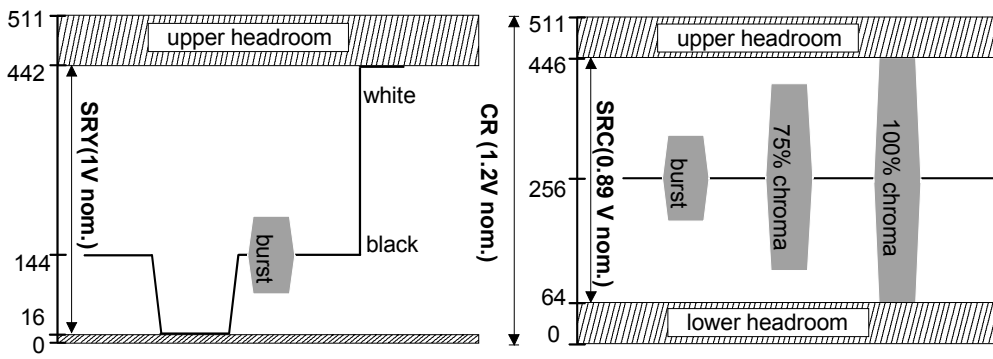

Fig. 2-2: CVBS, Y and C Amplitude Characteristics.
The conversion range (CR) is bigger than the signal range (SRY, SRC) leaving a headroom for overshoots (see Fig. 2-2).